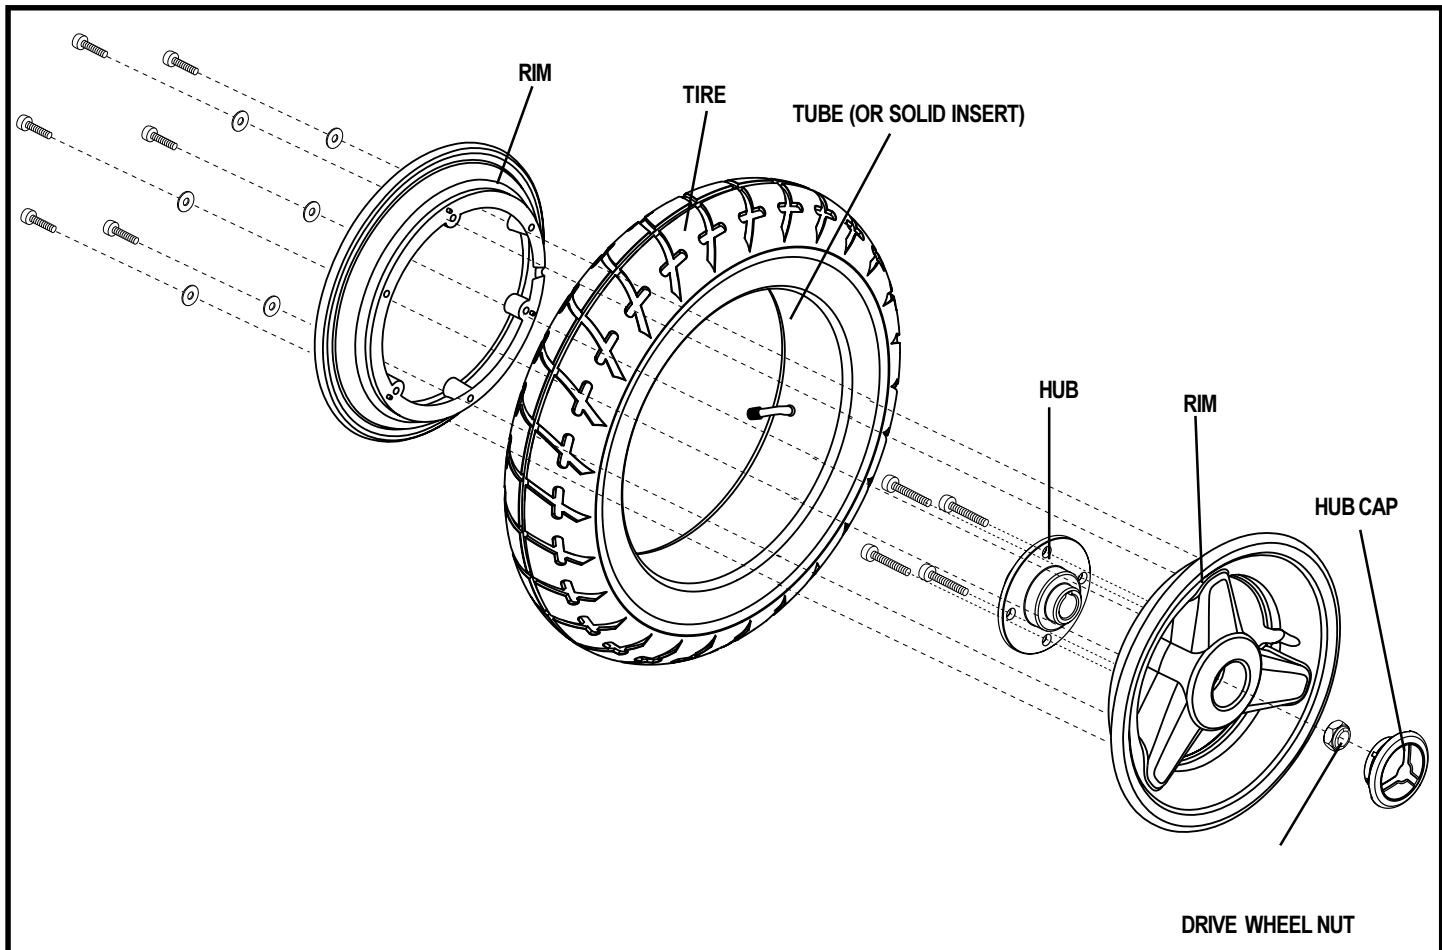

Figure 27. Wheel Assembly
4. Pry off the hub cap. See figure 27.